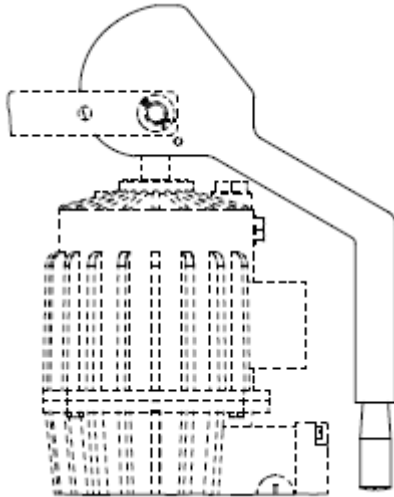

Fig. 8.12
8.6 Option handrelease lever (LS)
The option handrelease lever (LS) is for the manually drive out the piston rod in a de-energised state (brake release) turn the handrelease 180° state (brake release). For proper work the manually handrelease lever has to be turn back in working place see Fig. 8.12.